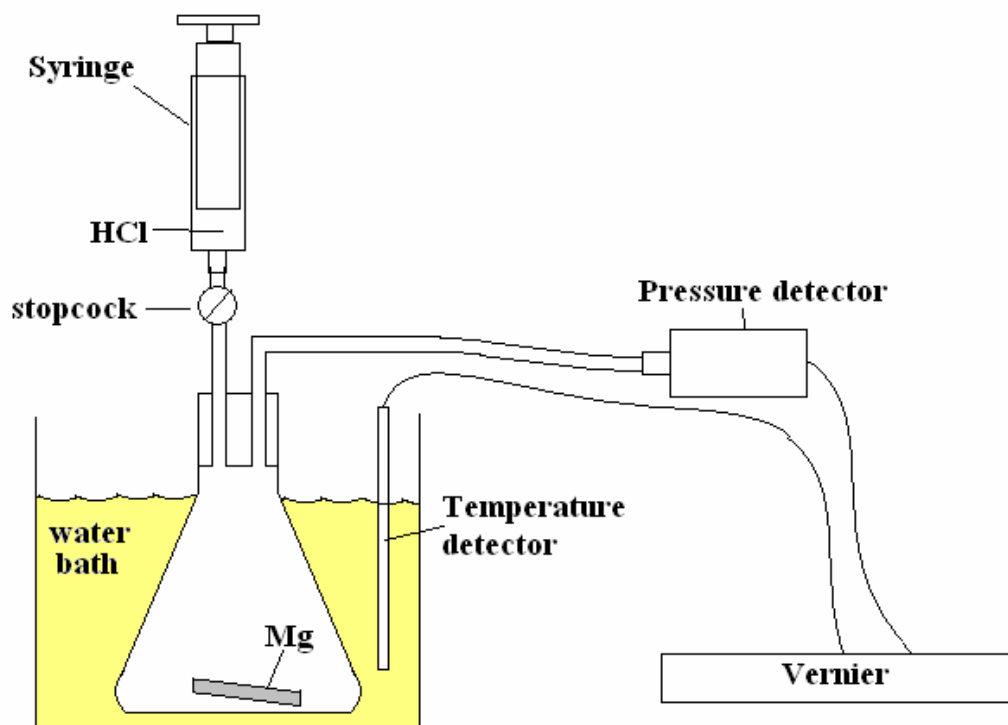

Figure 1. Apparatus for Determination of R .
Based on the reaction stoichiometry, if the $HCl(aq)$ is in excess, the moles of H_2 produced must be equal to the moles of Mg reacted, which can be calculated from the mass of Mg used and its formula mass. If the volume, pressure and temperature of the known number of moles of H_2 produced are measured, then equation (3) can be used to calculate R . The H_2 will be generated in the Erlenmeyer shown in Figure 1 below by adding the HCl solution in the syringe to the Erlenmeyer containing the Mg ribbon.
- Return to the main screen of the DATAMATE program and refer to Figure 1 on p. 6-2 in the experimental procedure that follows.
3. Fill a plastic tub with tap water to a level (see Figure 1) that will nearly submerge a 125-mL Erlenmeyer flask. Connect the temperature sensor to channel 2 of the Vernier and insert the temperature probe into the water bath.
8. Partially submerge the Erlenmeyer flask in the water bath as shown in Figure 1, with the stopper held in place. Press START from the main screen on the calculator to begin data collection. After 20 seconds, the partner not holding the flask in the bath should open the stopcock directly below the syringe, allowing the plunger to smoothly and quickly add all of the HCl solution to the flask. Then immediately close the stopcock.